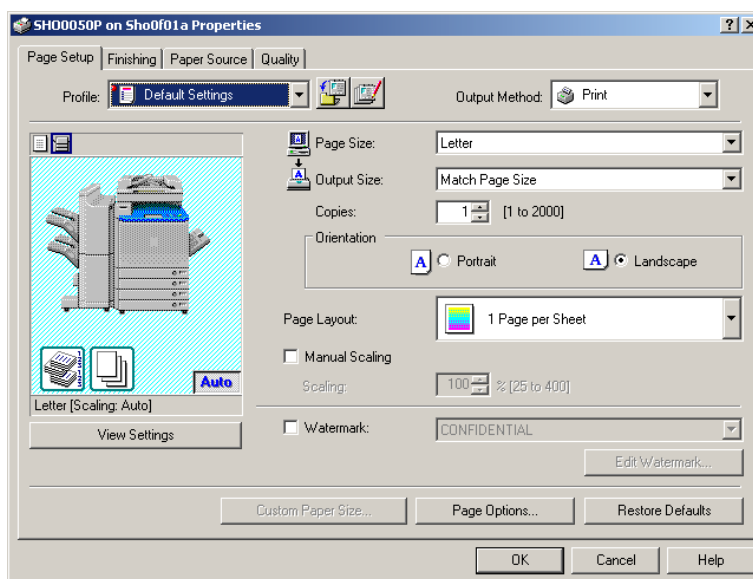

Figure 7-18 Printer Properties dialog
3. Select Properties. See Figure 7-18. This dialog may be different, depending on the computer operating system and the printer selected.